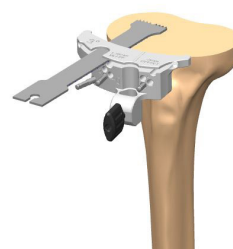

Figure 109
2. Remove the Tibia Stylus and assembly leaving the cutting block in place. Resect the proximal tibia (Figure 109).